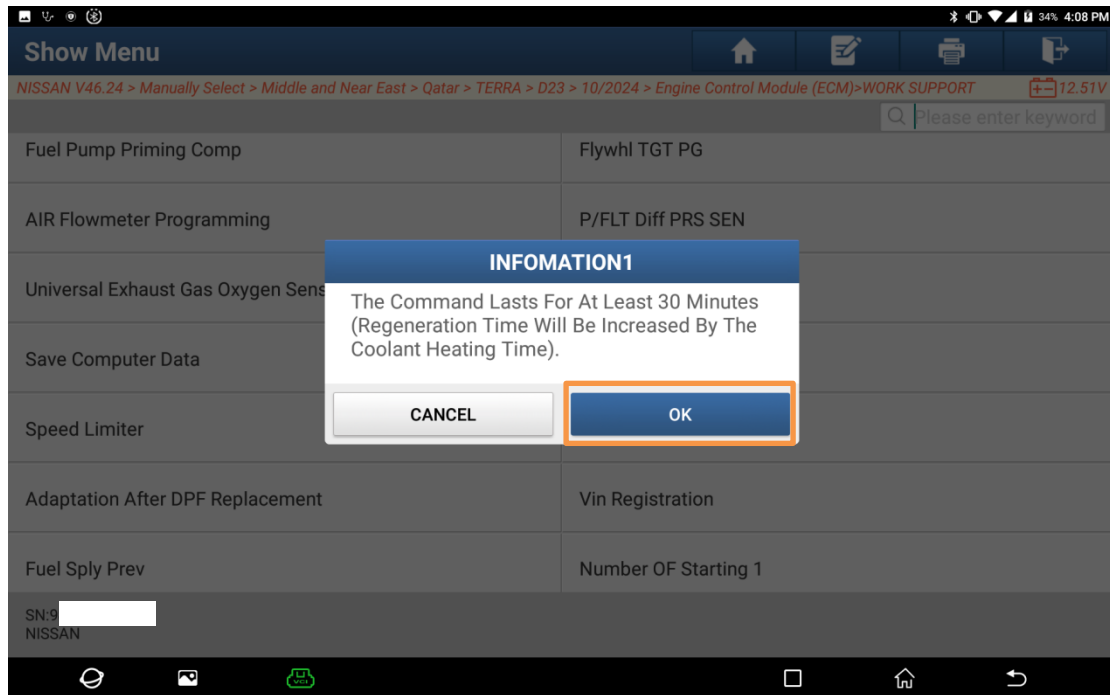

Figure 15
11. Carefully read the pop-up prompt information in Figure 15. This function lasts for at least 30 minutes. Coolant heating time will increase the regeneration duration. Click [OK] to proceed to the next step.